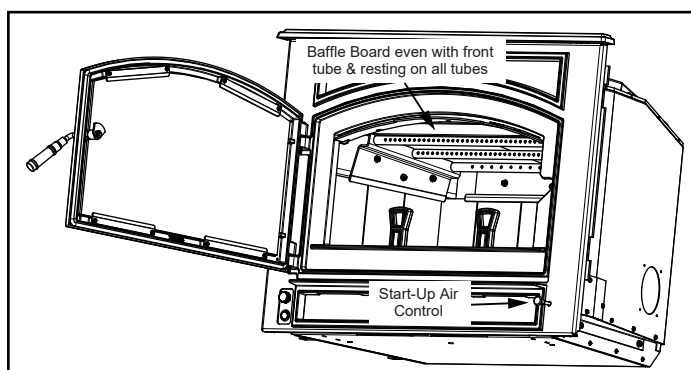
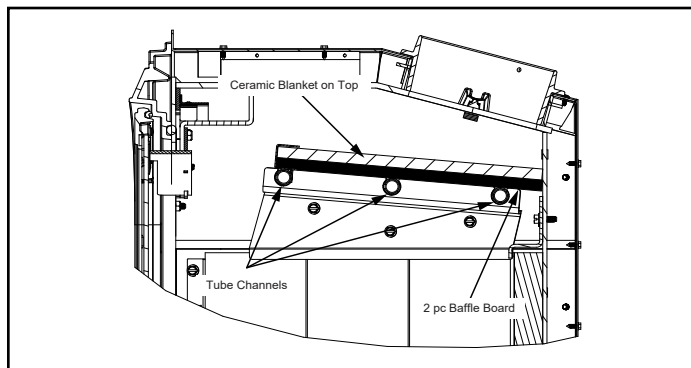

Figure 2.3
Figure 2.4
1. Confirm the baffle and ceramic blanket are correctly positioned. It should be even with the front tube and resting on all tubes (**Figure 2.3 and Figure 2.4**).